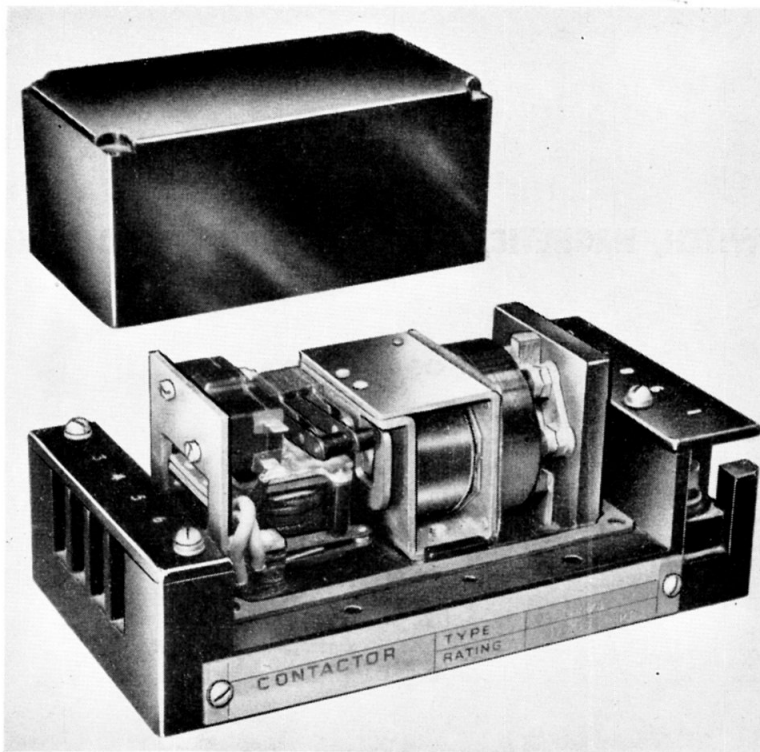

Fig. 1. General view
1. The switch Type 20A (fig. 1) is electrically controlled, mechanically latched, single-pole, single-throw, and is designed for the remote control of circuits which carry not more than 50 amp. continuously at 120V, d.c. (nominal).